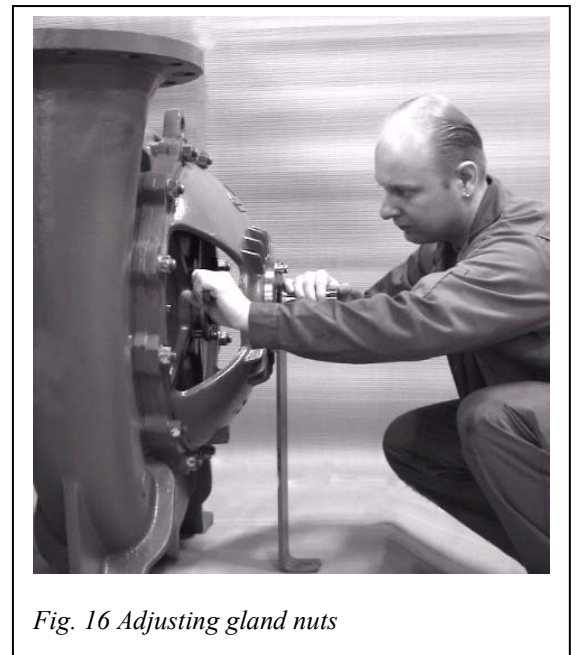

Fig. 16 Adjusting gland nuts
6. The gland nuts must be carefully tightened until it is no longer possible to turn the pump rotor freely by hand (Fig. 16). Then loosen the nuts slowly until it is possible to turn the rotor again.